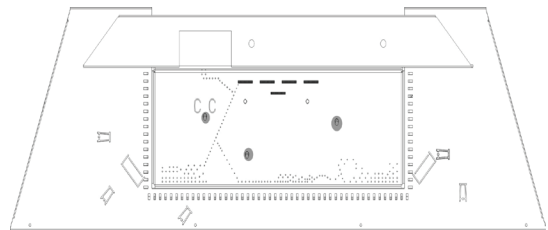

Figure 4
3. Place rock base (A) onto the burner (pins 1, 2 and 3). **See Figure 4**.